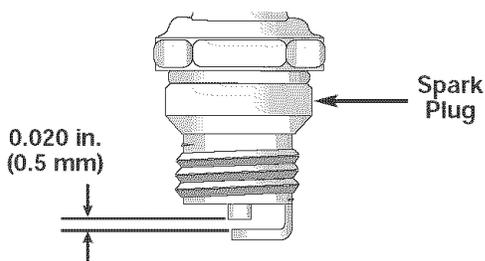

Fig. 19
3. Replace a cracked, fouled or dirty spark plug. Set the air gap at **0.020 in. (0.5 mm)** using a feeler gauge (Fig. 19).